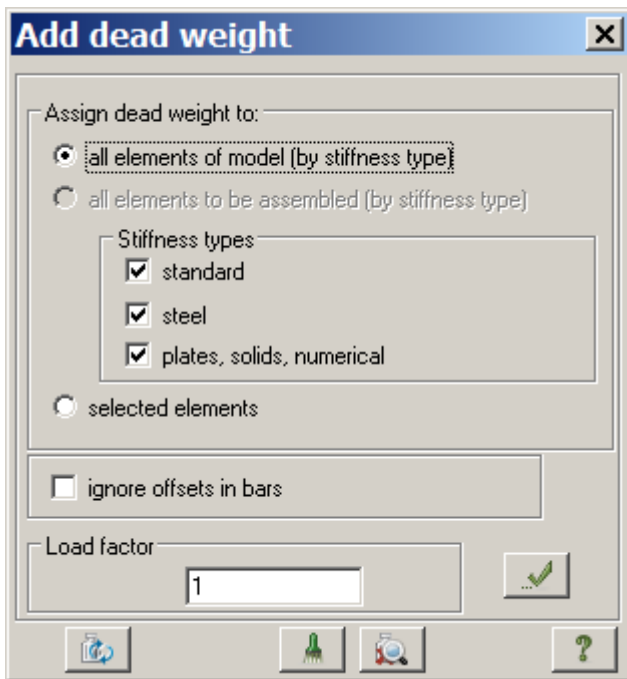

Figure 22.14 Add dead weight dialog box
- ⇒ In the **Add dead weight** dialog box (see Fig.22.14), click **All elements** and specify **Load factor** as equal to 1. Then click **Apply**  (dead weight is automatically applied to elements).